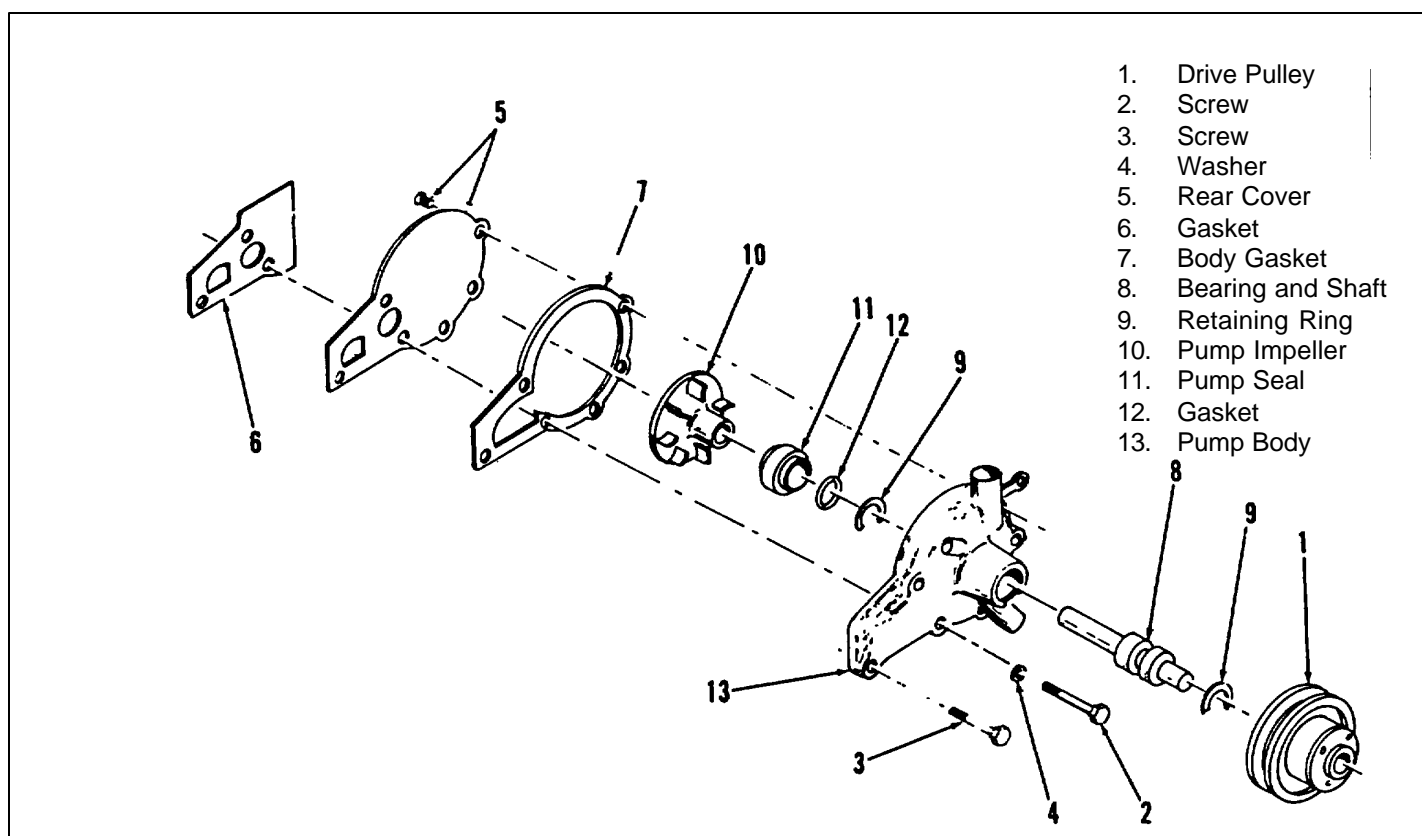

Figure 7-4. Engine Water Pump, Exploded View
**7-23. WATER PUMP, INSPECTION.** (See figure 7-4). Complete inspection requires checking the pump both assembled and disassembled. Proceed as follows:
2. Check shaft seals (11, figure 7-4) for deterioration.
3. Check mating surfaces of cover (5) and body (13) for cleanliness and freedom from warpage.
4. Check shaft and bearing (8) for smoothness of machined surfaces and free operation of bearing without looseness. Check hub and pulley (1) for alignment of pulley groove.